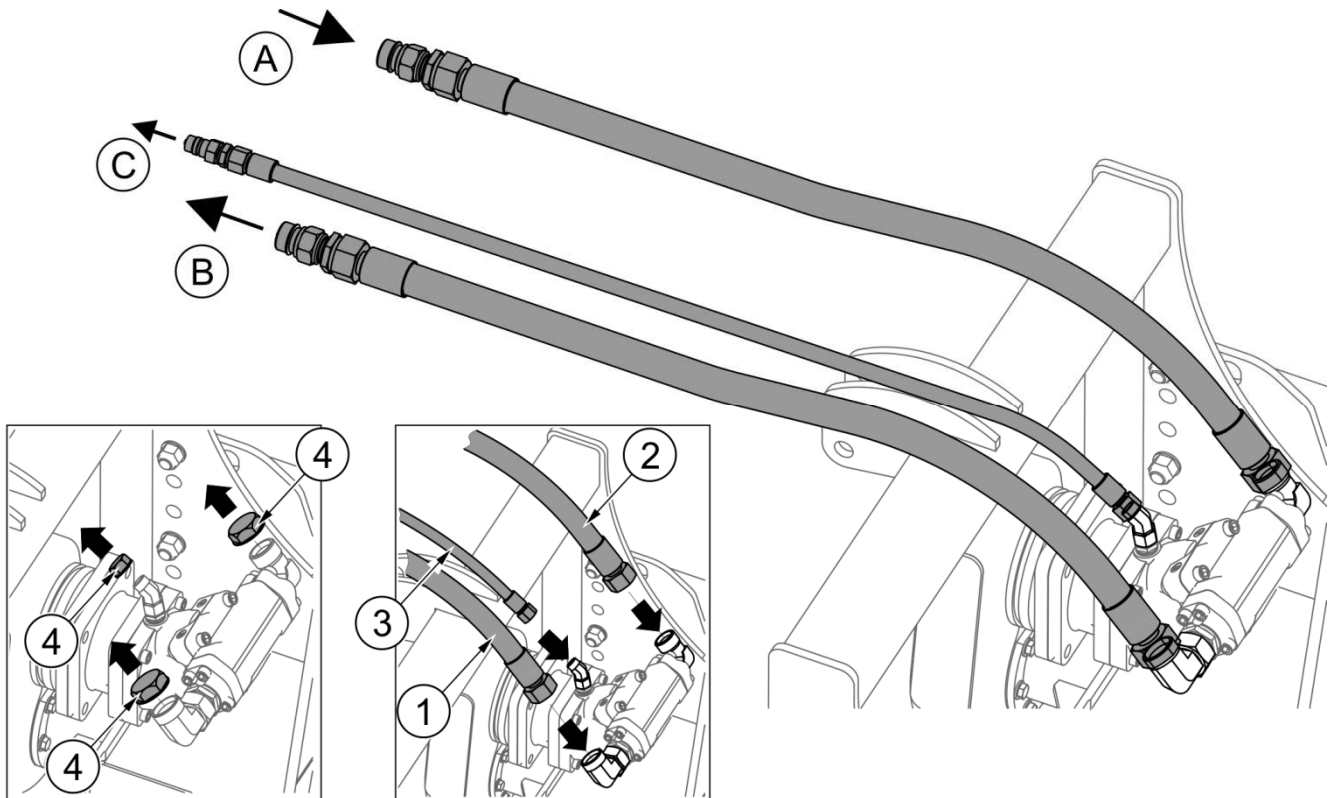

FIG. 4.5 Connecting supply to carrying vehicle's hydraulic system
(1) - hydraulic line; (2) - hydraulic line (3) - hydraulic line; (4) - connector body; (5) - connector body;
(6) - quick coupler plug; (7) - quick coupler plug; (8) - quick coupler plug; (9) - plug stopper; (10) - plug stopper; (11) - plug stopper
Snow blower with hydraulic drive (OW2.1H) is connected to suitable external hydraulic system of the carrying vehicle by means of hydraulic lines (FIG. 4.5) (3), (2) and (3) terminated with quick couplers. Before installing hydraulic lines, remove securing plugs from hydraulic motor. Requirements for carrying vehicle cooperating with snow blower with hydraulic drive are presented in TABLE 1.1 in section 1.2 PROPER USE.